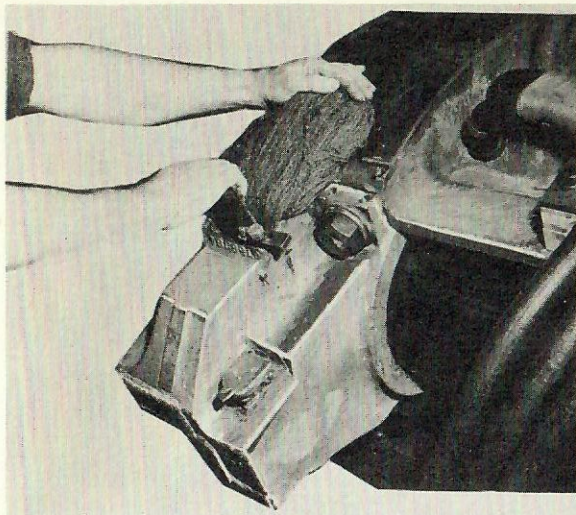

Fig. 18-10
6. The end of wick that protrudes from cap is then laid back out of the way and held there with the wide packing tool. See Fig. 18-10.